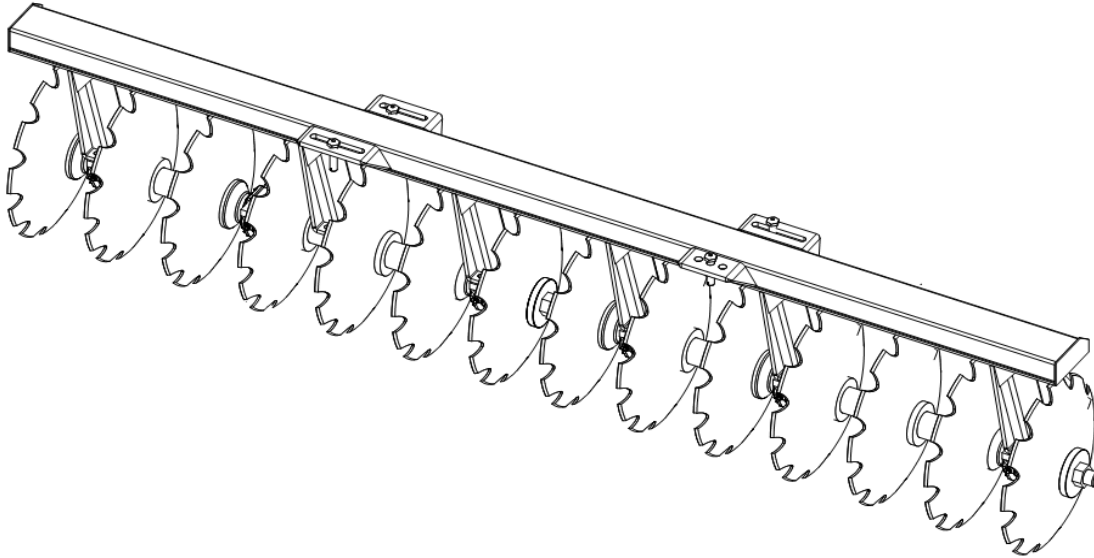

Figure3.3
3. Front Disc Gang (figure 3.3)